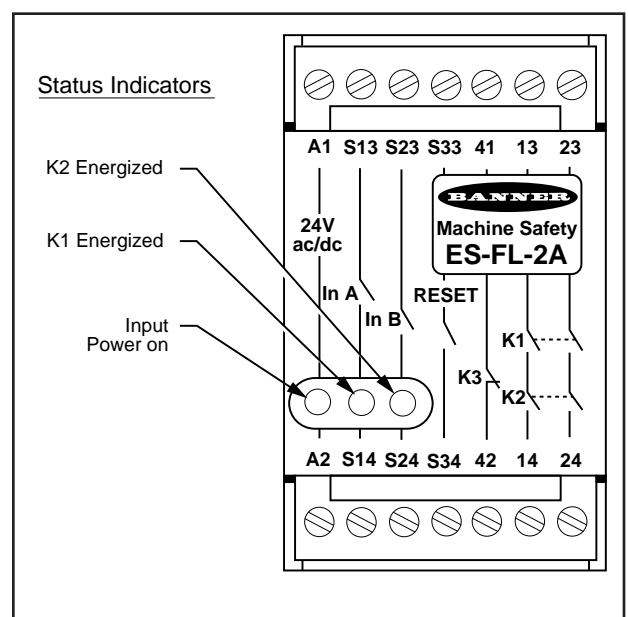

Figure 1. ES-FL-2A Status Indicators
The safety relay has indicators for input power and output relay contact status (see Figure 1). There are no adjustments and no user-serviceable parts. See page 7 for information regarding repair service.
- 3) Apply input power (only) to the ES-FL-2A safety relay at terminals A1 and A2. Verify that only the **Input Power** indicator (Figure 1) is on. If either of the other two indicators is on at this point, disconnect the input power and check all wiring. Return to step 2 after the cause of the problem has been corrected.